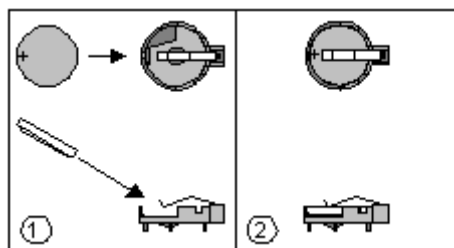

Figure 27: Removing the Battery
5. Figure 27 shows the battery location. Gently pry the battery free from its socket, taking care to note the "+" and "-" orientation of the battery (Figure 27, 2).